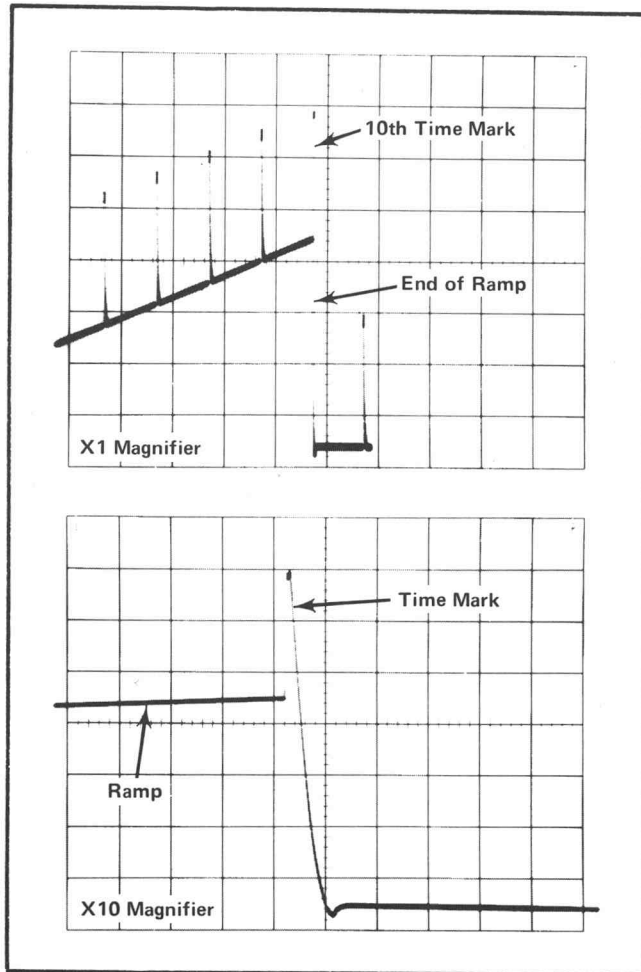

Fig. 5-7. Typical display of 10 μ s Ramp Duration Adjust, step 7.
7. Adjust 10 μ s Ramp Duration (C120A) ①
- Display ramp and time marks as shown in Fig. 5-7.